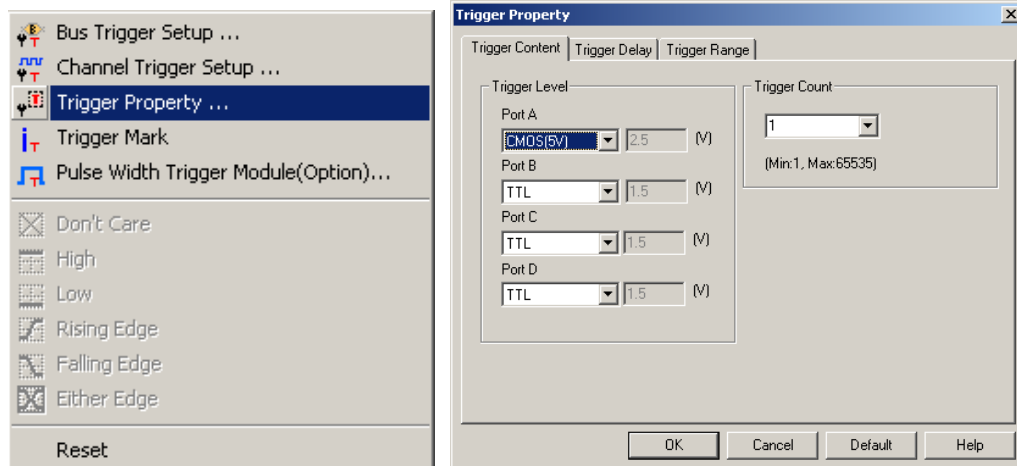

Fig 4-4 - Trigger Property
Step1. Click  icon or click **Trigger Property** from the Trigger on the Menu Bar. The dialog box will appear as shown in Fig 4-4.